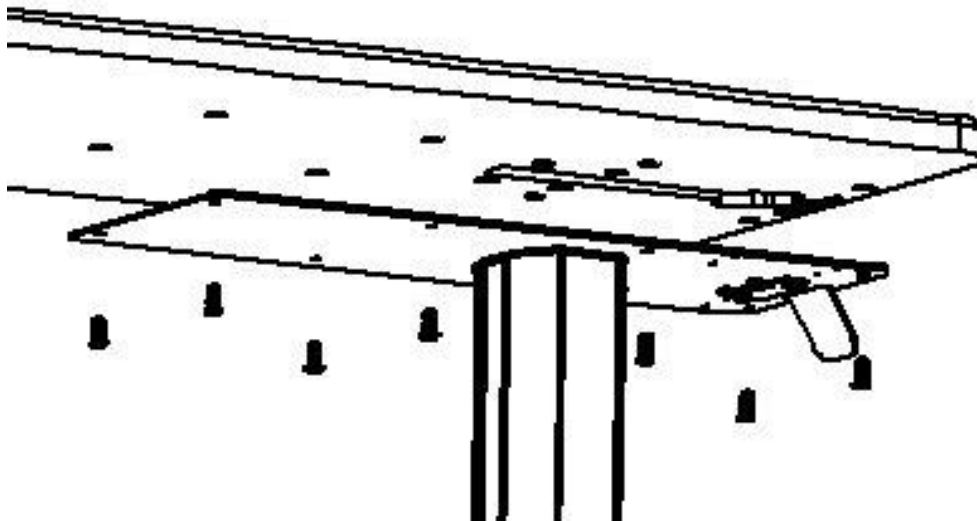

Figure 5
Raise the unit to its fullest extension. Remove shelves (pedestal, cover plate, and handle sleeve do not need to be removed for top replacement). Remove (8) screws from the underside of the plate. Lift top up and off of the plate. See Figure 5